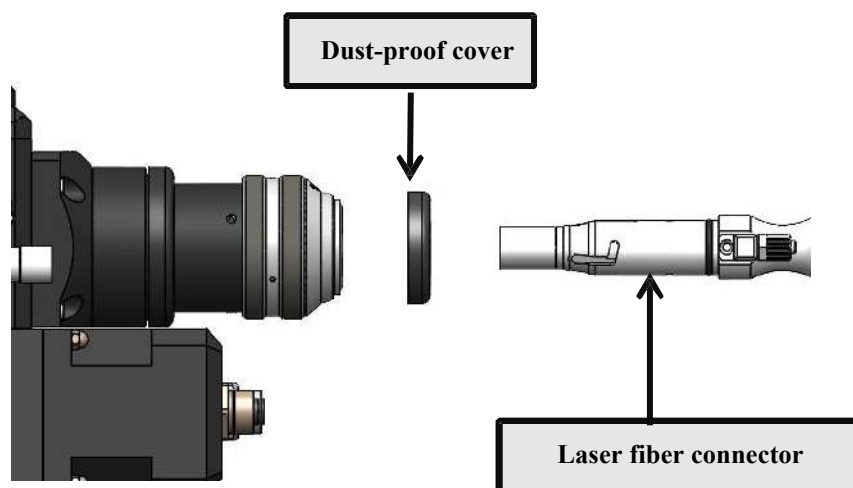

Figure 2.2
① Connection of signal line CAN bus
② Functions of bus box
- ① Put the cutting head horizontally, remove the white cover on the cutting head and static sticker, and then take out the dust-proof plug and dust-proof cover, as shown in Figure 2.2: